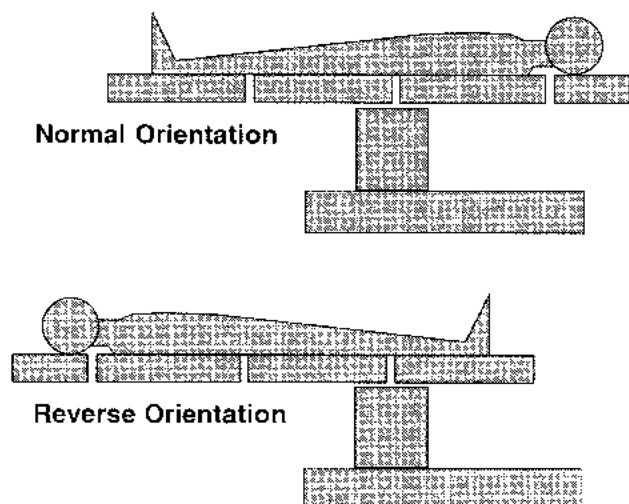

Figure 4-2. Patient Orientation
3. Press the ORIENT PATIENT Function button in the center row of buttons on the hand control and **within 5 seconds** (while the LED is still lit), press the appropriate Actuate button (NORMAL or REVERSE) to indicate the orientation of the patient's head on the table (see Figures 4-2 and 4-3).
- ORIENT PATIENT button activated (green LED on) to indicate patient's position on table (see Figure 4-2).
- ORIENT PATIENT button activated (green LED on) to indicate patient's position on the table (see Figure 4-2).